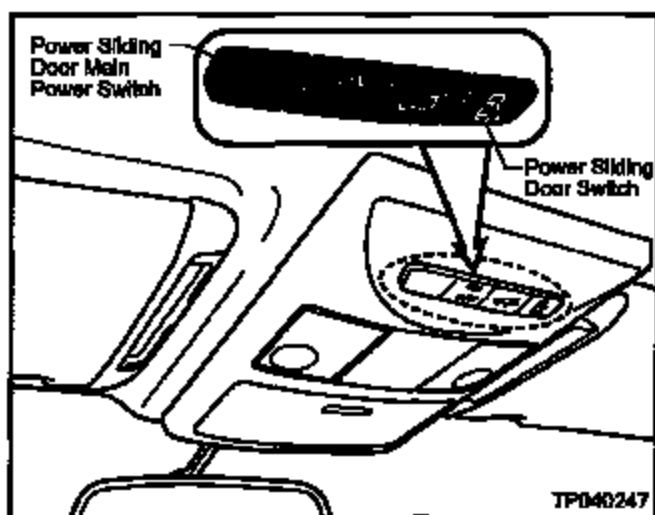

Figure J2
3. Turn the Power Sliding Door Main Power Switch to the OFF position (see Figure J2).